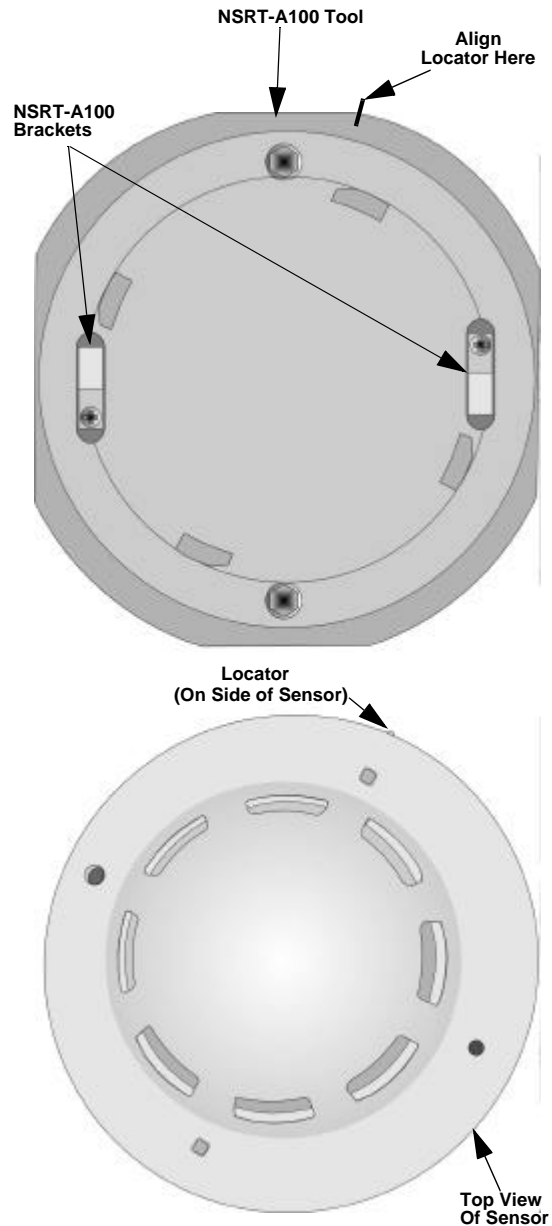

Figure 4: NSRT-A100 Tool and Sensor Locator
1. Place the sensor on the NSRT-A100 tool aligning the locator as shown in Figure 4.